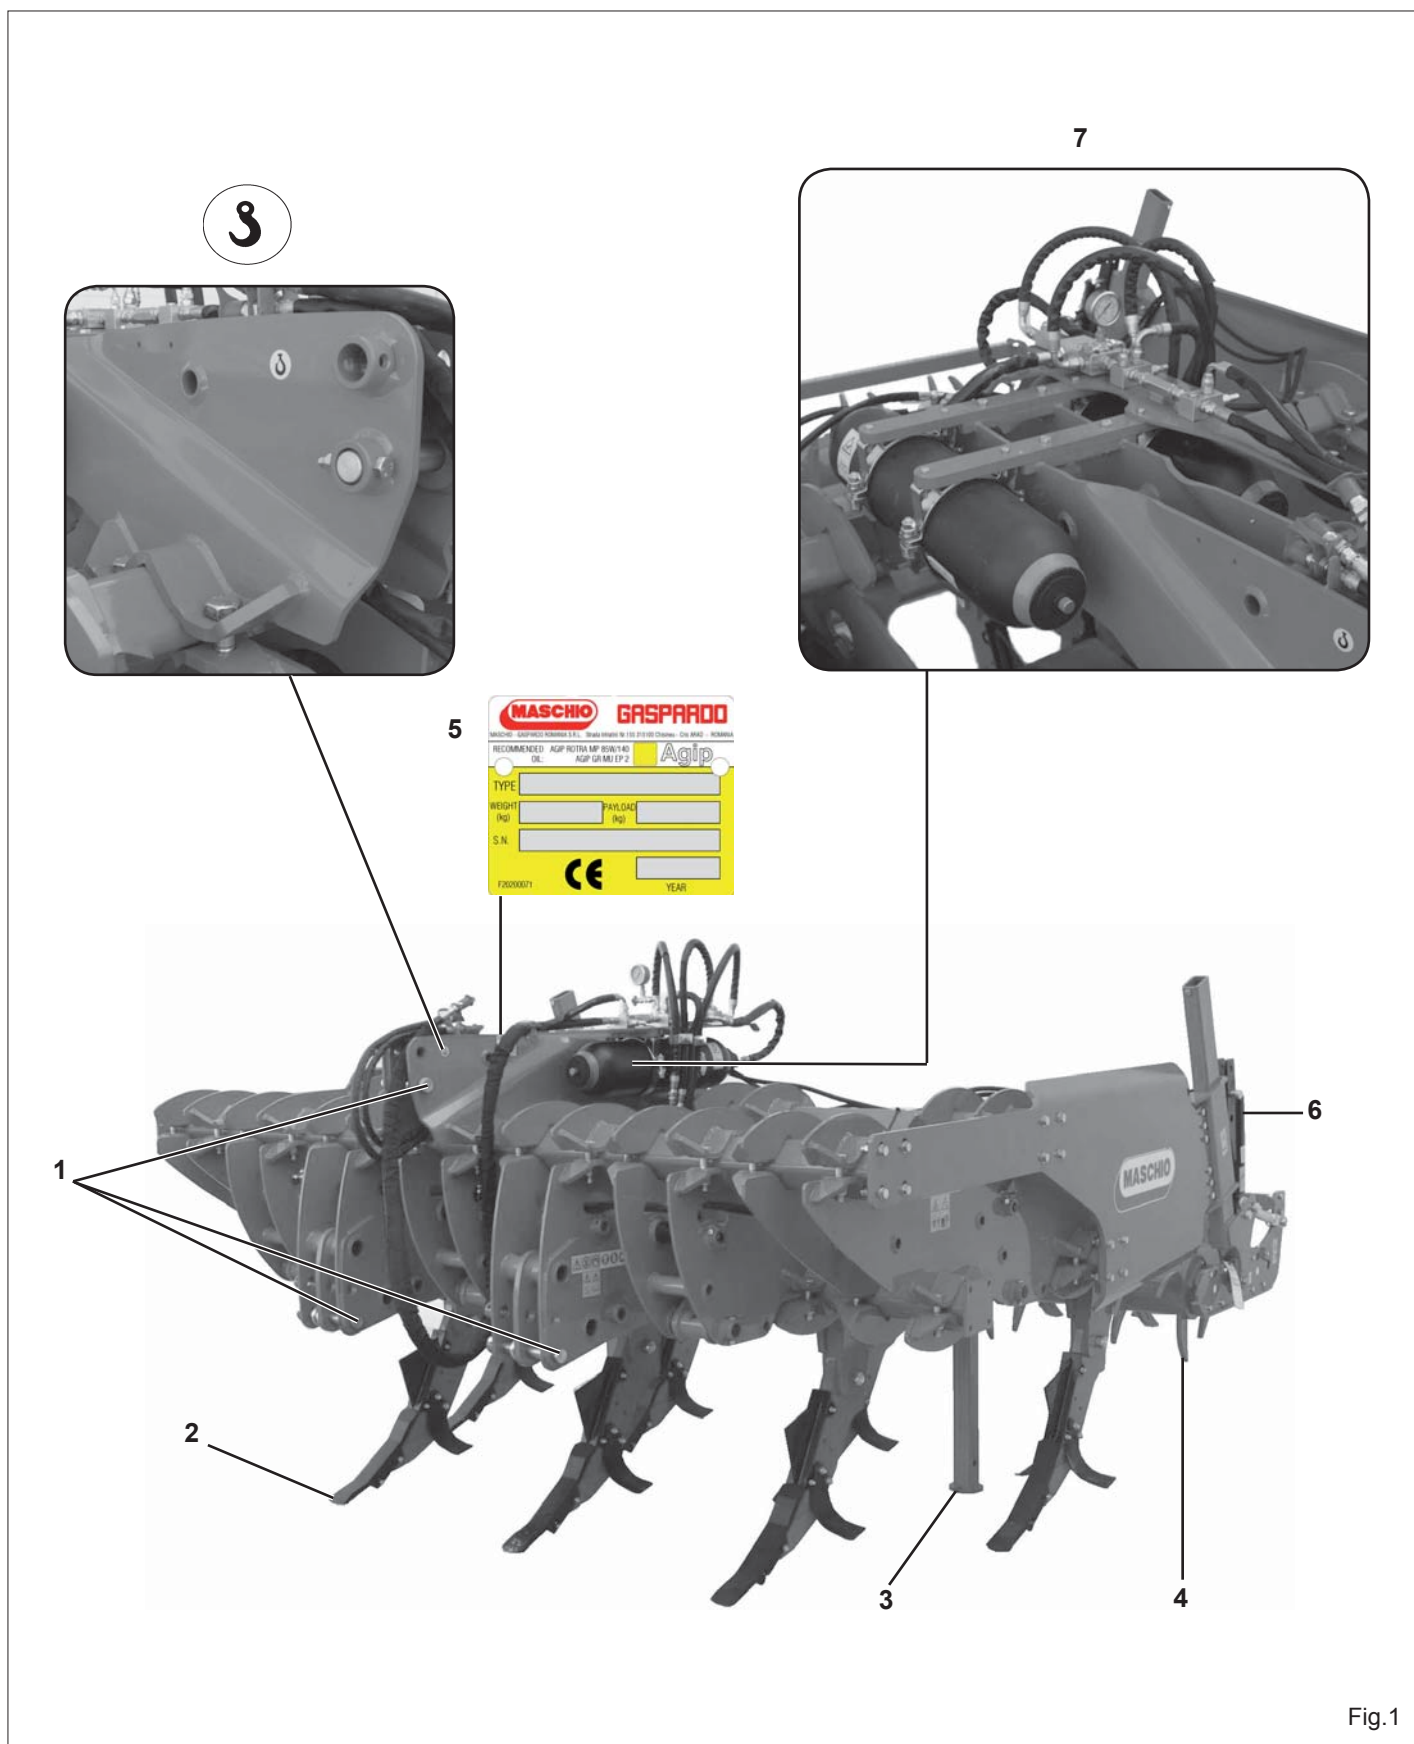

Fig.1
If the machine is handled, it must be lifted by hooking onto the appropriate holes with a suitable winch or crane of sufficient capacity. Due to the dangerousness of this operation, it should only be performed by skilled and expert personnel. The mass of the machine is on the identification Plate (5 Fig. 1).
1.6 ASSEMBLY DRAWING (Fig.1)